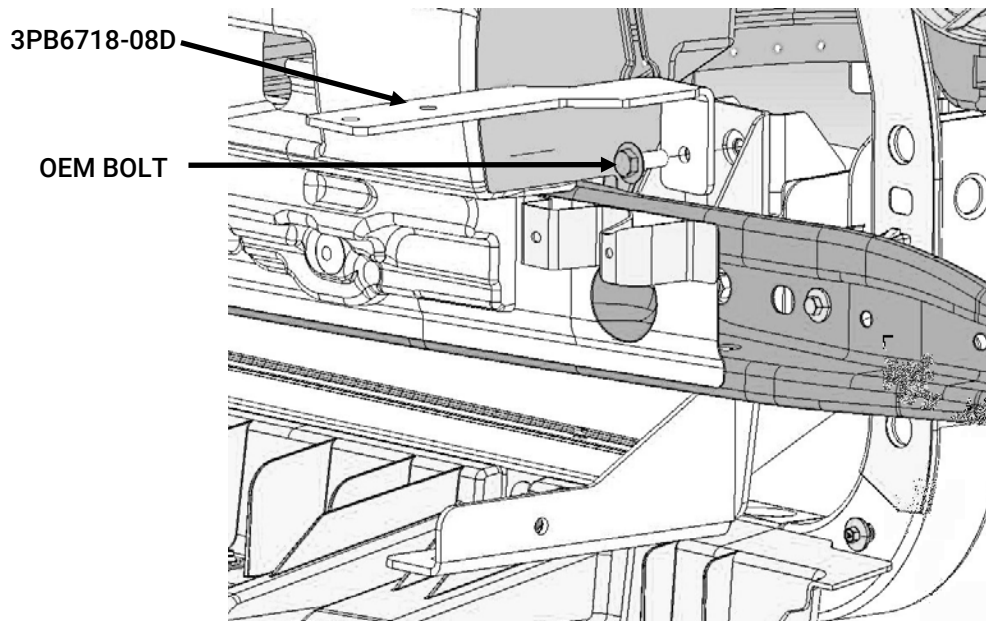

Figure 4
- C. Install upper mounting brackets by removing OEM bolts on the front bumper beam and re-use to fasten bracket [3PB6718-08D]. (Fig. 4)